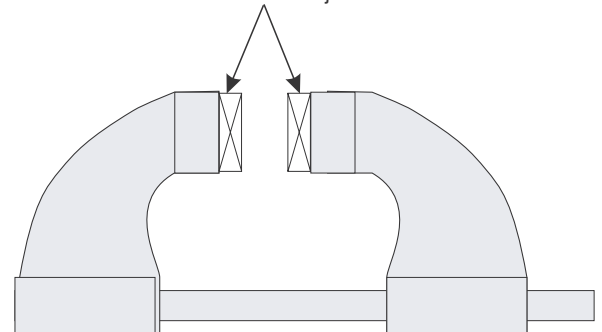

Figure 11-20. Pad the vise jaws to protect the End Cap threads.
- a. If a vise is used, install the jaw pads. If jaw pads are not available, tape or bind strips of wood to the vise jaws as shown in Figure 11-20.